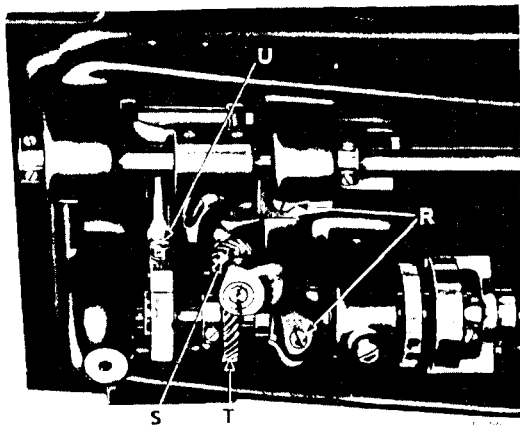

Fig. 20. Adjustment of Hook Saddle
Turn the machine pulley over toward you until the point of the sewing hook is at the center of the needle. Loosen the two screws (R, Fig. 20) holding the hook saddle underneath the bed of the machine and move the hook saddle to the right or left, as may be required, until the point of the hook is as close to the needle as possible without striking it, then securely tighten the two screws (R).